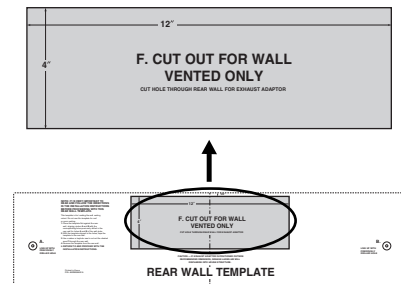

Figure 28
1. Place the mounting plate against the rear wall as described in step 5 item 1 (page 15).
2. Use the wall template to determine the location and size of the box cutout for the rear wall duct. See **Figure 28**.